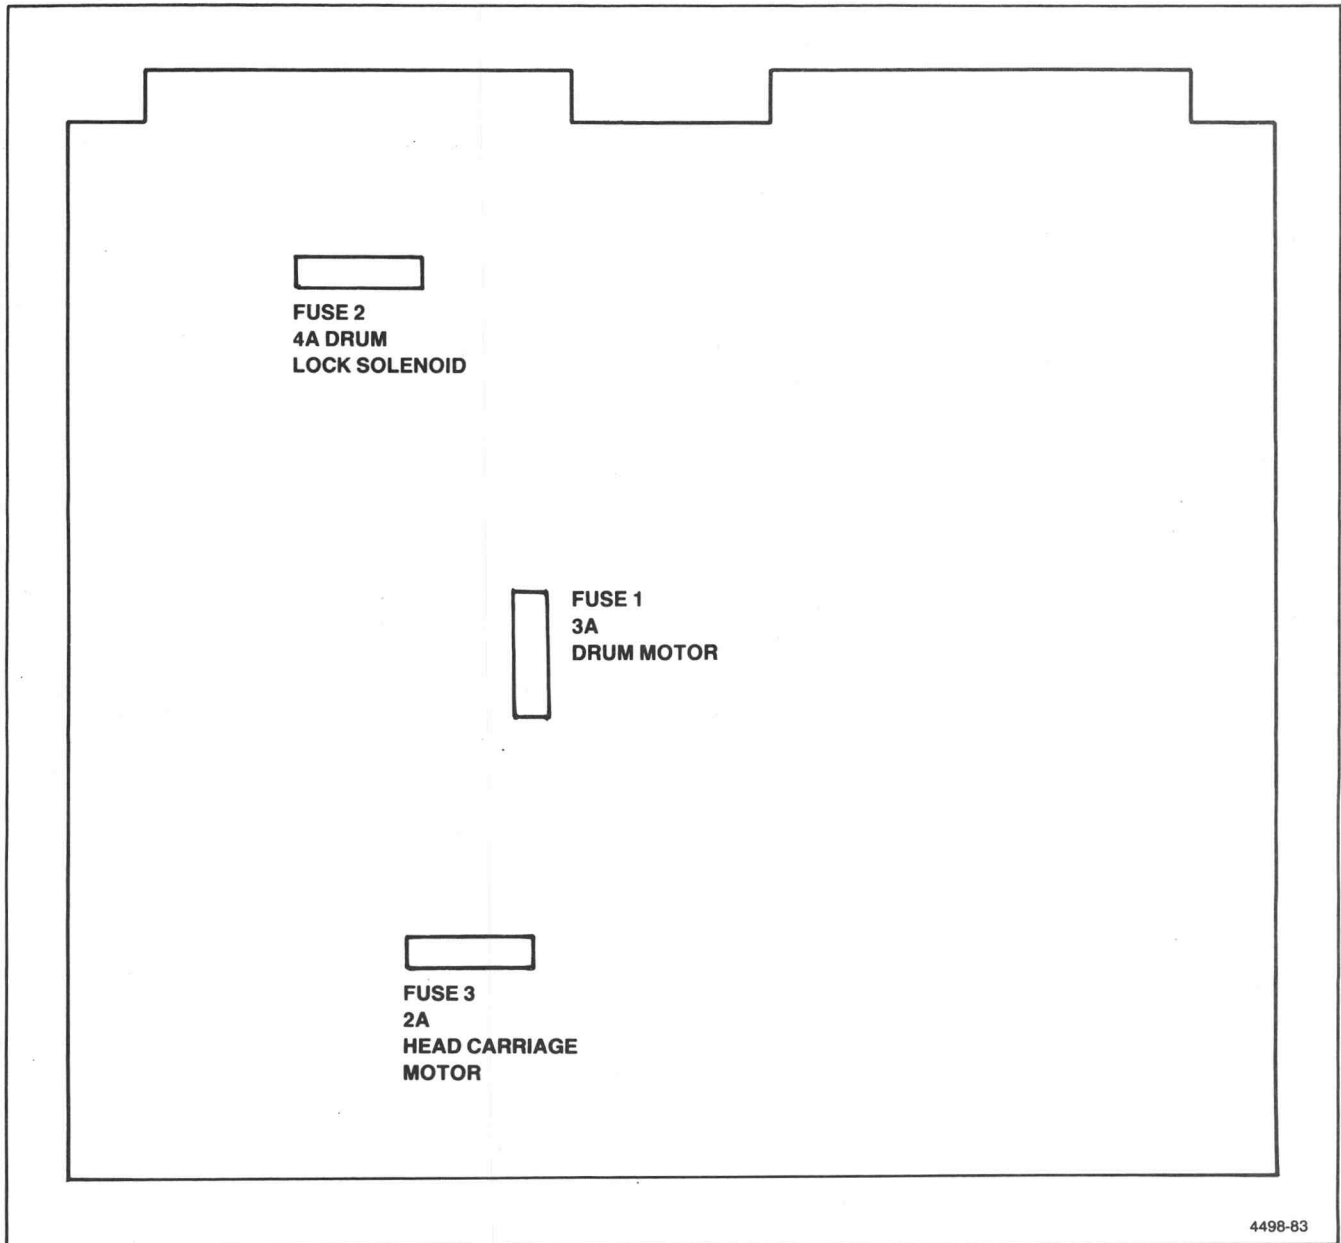

Figure B-2. Driver Circuit Board Fuses.
C. Three fuses on the Driver Circuit Board (see Figure B-2):